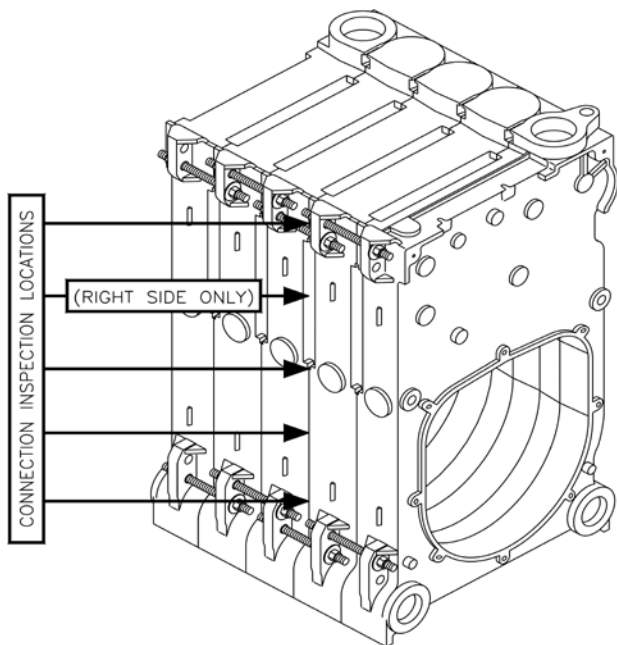

Figure 9: Connection Inspection Locations and Manual Draw-Up Tie Rod Pattern
- l. The large draw-up rod lugs with dual holes are cast in the four (4) corners of each casting. STARTING WITH THE UPPER HOLES, install four (4) 5/8" x 9 3/4" long draw-up rods along with washers and nuts (see Figure 9).
- m. DRAW UP SECTION SLOWLY AND EVENLY using an alternating pattern starting with the upper right lug (closest to the 7" port) and proceeding to the lower left, lower right and finishing with upper left lug. When you start, grind surfaces between adjoining sections should be approximately 3/8" apart. Use three (3) or four (4) passes at tightening the four (4) draw-up rods a little at a time so that sections are pulled up evenly. During the last pass, pay close attention to the silastic sealant as it squeezes when the sections come in close contact. The silastic sealant should continue to squeeze out wafer thin until the sections are connected metal to metal. If the silastic has stopped squeezing out from the connection and the sections still do not appear to be drawn metal to metal, use a feeler gauge to measure any gaps at the locations identified in Figure 9. (Unless specified otherwise, gaps should be measured at these locations on both sides of the sections.) A maximum gap of .025" is acceptable. Measure gaps at the outer edge of the connection only, making sure not to puncture the gasket created by the silastic and rope.